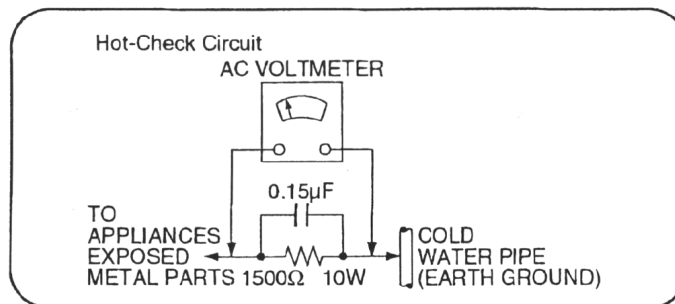

Fig. 1
1.1.2. LEAKAGE CURRENT HOT CHECK (See Figure 1.)
2. Connect a $1.5\text{k}\Omega$, 10 watts resistor, in parallel with a $0.15\mu\text{F}$ capacitors, between each exposed metallic part on the set and a good earth ground such as a water pipe, as shown in Figure 1.